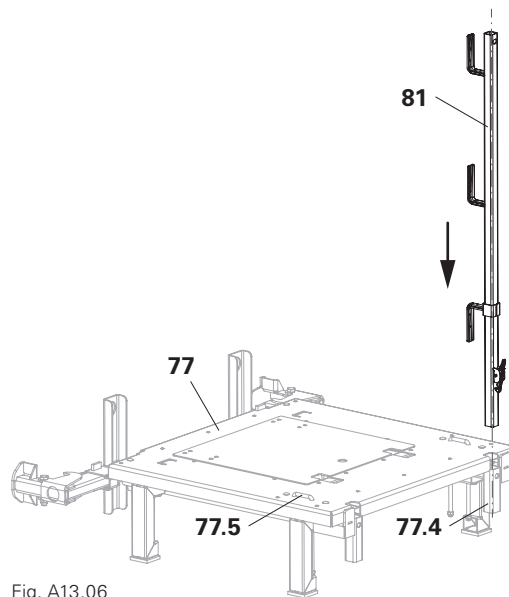

Fig. A13.06
1. Insert 2x Guardrail Post MXK (**81**) into the post holder (**77.4**). (Fig. A13.06)